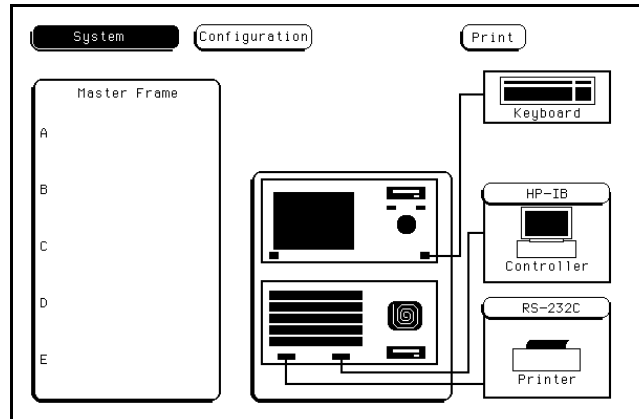

Figure 2-5. System Configuration Menu
1. With the operating system disk in one of the disk drives, turn the instrument on to obtain the System Configuration menu. See figure 2-5.